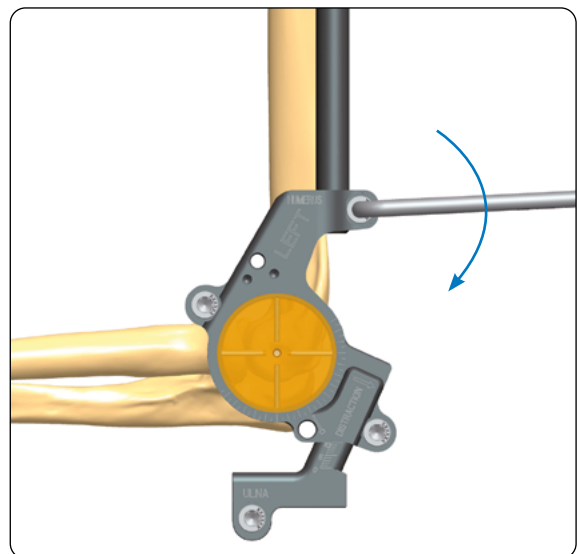

Fig. 6
6) Choose a 12mm rod of appropriate length and connect it to the Multi-Screw Clamp and to the Elbow Hinge (93410). Lock the rod to the hinge (**Fig. 6**).